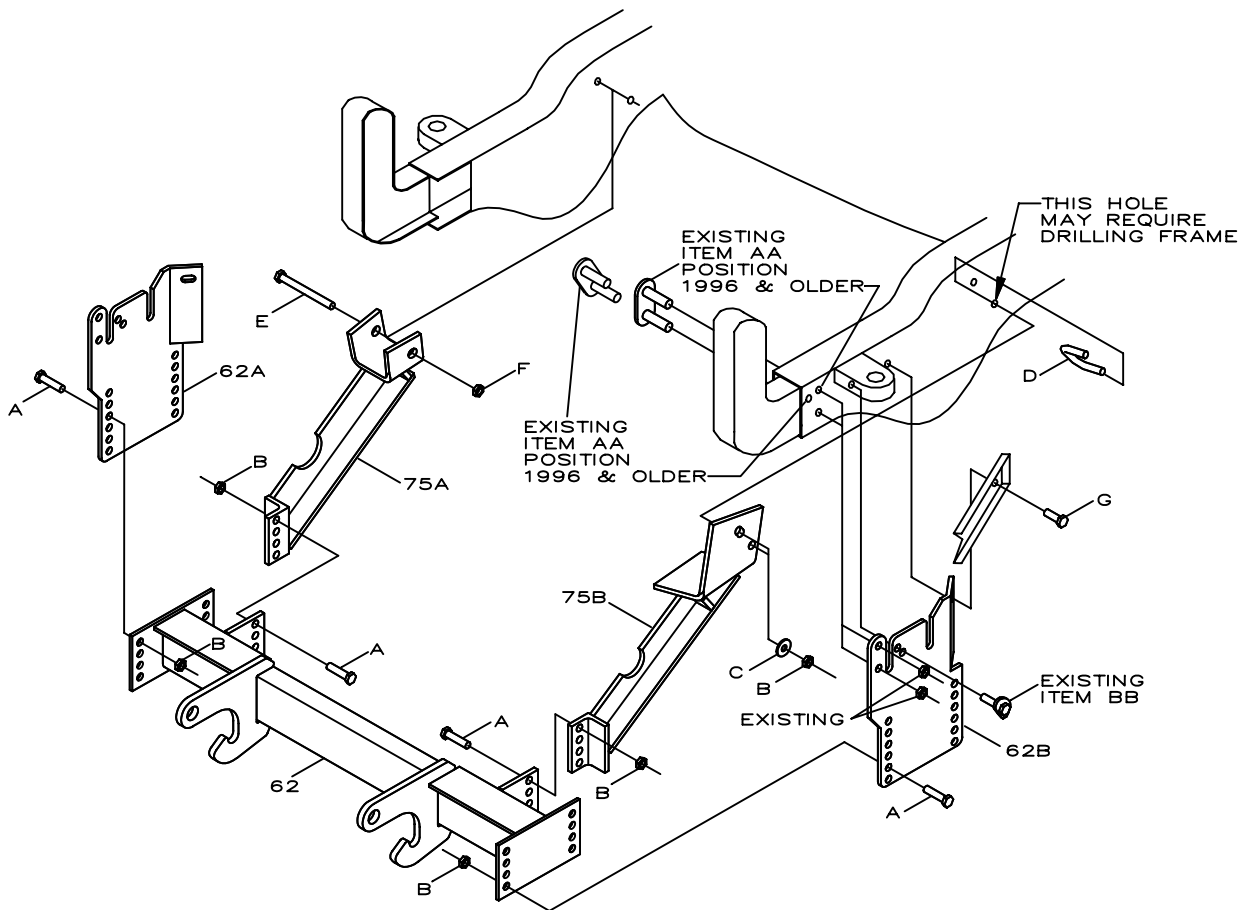
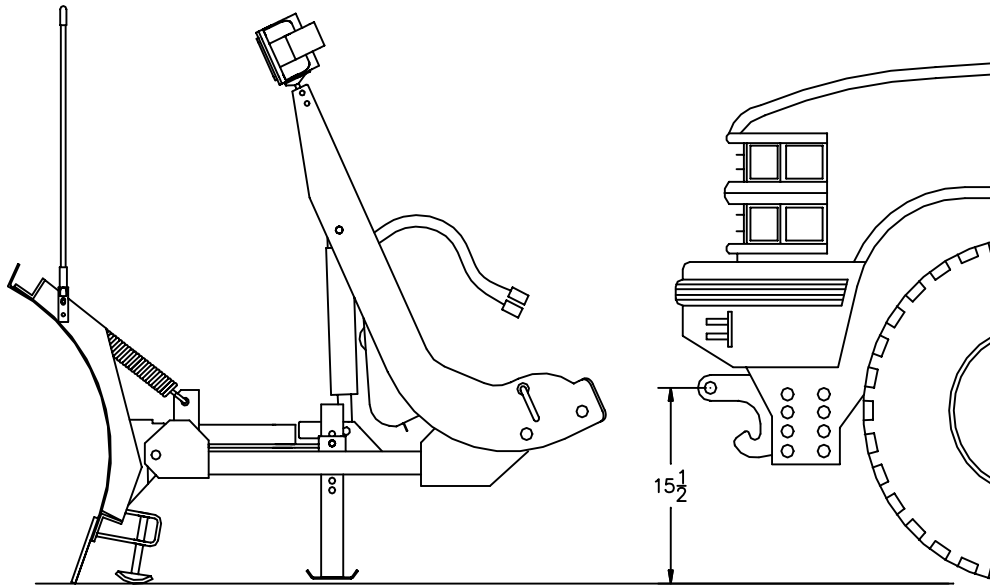

Figure 1
Figure 2
1. Loosen and remove the bolt bar (existing item AA, see Fig. 1) from the frame/bumper mounting tab. Loosen and remove the single bolt from the frame/bumper mounting tab (existing item BB, see Fig. 1). Loosen, remove and discard the bolt from the corner bumper brace. This item will be replaced by item G (see Fig. 1). When re-using the bolt bar (on 1997 & newer vehicles) insert the bar from the center of the vehicle outward. Only (1) stud of the bolt bar will be securing the PUSHBEAM SUPPORT PLATES (Ref. 62A and B, Fig. 1). Installing the bolt bar as described will allow the nuts to be re-tightened on two different surface levels. Position the PUSH BEAM SUPPORT PLATES (Ref. 62A and 62B, Fig. 1) to the front frame rails of the truck. Using the vehicles existing bumper bracket hardware and item G bolts, bolt the PUSH BEAM SUPPORT PLATES in place (see Fig. 1). Fasteners should only be finger tight.
2. Bolt the PUSH BEAM (Ref. 62, Fig. 1) in place using the 1/2" - 13 x 1-1/2" hex head bolts and self-locking nuts provided. NOTE: the proper height adjustment for the PUSH BEAM is approximately 15-1/2" from the ground to the center of the PUSH BEAM pin-receiving hole (see Fig. 2). Should the PUSH BEAM ASSEMBLY be mounted too high, the nose of the plow will tend to dig in while plowing. If the PUSH BEAM ASSEMBLY is mounted too low the wings of the plow will not lay flat against the ground. This will be most apparent when plowing in the scoop position.
3. Install the LEFT ANGLE BRACKET (Ref. 75B, Fig.1) from the mounting points on the PUSH BEAM to the truck frame. On some models it may be necessary to drill the frame for the lower hole (see Fig. 1). Using the 1/2" - 13 x 1-1/2" hex head bolts, 1/2" - 13 U-bolt (Ref. D, Fig. 1) and self-locking nuts, secure the LEFT ANGLE BRACKET to the PUSH BEAM and the vehicle frame. Fasteners should only be finger tight.
4. Install the RIGHT ANGLE BRACKET (Ref. 75A, Fig. 1) from the mounting points on the PUSH BEAM to the truck frame. Using the 1/2" - 13 x 1-1/2" hex head bolts, the 1/2" - 13 self locking nuts, the 5/8" - 11 x 5" hex head bolt and self locking nut (Ref. E & F, Fig. 1), secure the RIGHT ANGLE BRACKET to the PUSH BEAM and the vehicle frame. Fasteners should only be finger tight.